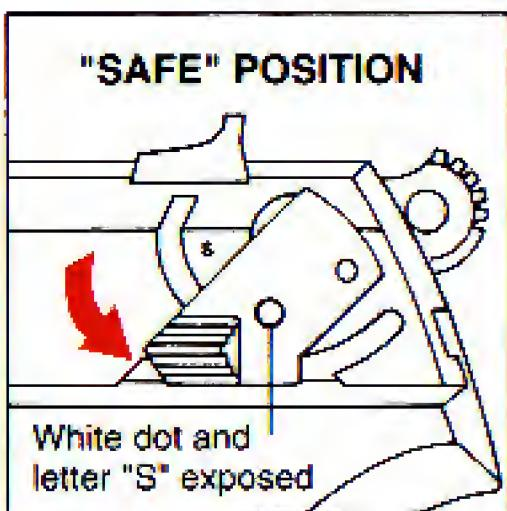

FIGURE 1
The pistol can and should be loaded and unloaded with the safety engaged in its "safe" position (lever fully down, white dot and the letter "S" exposed). **The safety should be in its "safe" position at all times except when the user is deliberately positioned to fire at a selected target.** See Figures 1 and 2, below, which illustrate the two positions of the safety.
2. Move either the right- or left-hand safety lever fully downward to its "safe" position so that the letter "S" and the white dot are fully exposed. (See Figures 1 and 2 on page 5).
4. For the 9mm P89 and P94 pistols, place ten (10) or fewer 9mm x 19 Parabellum cartridges into the magazine from the top.
The trigger is inoperable when the safety is fully engaged in its "safe" position (lever fully down, white dot and letter "S" exposed; see Figure 1 on page 5).
7. If the pistol is not to be fired immediately, the safety should remain in its "safe" position (see Figure 1, p. 5).
1. The muzzle of the pistol must be pointing in a safe direction at all times, and fingers should be outside of the trigger guard. Put the safety in its "safe" position (see Figure 1 on page 5) by rotating the safety fully downward until the letter "S" is fully exposed and the white dot shows. The safety can be engaged whether the pistol is cocked or not.